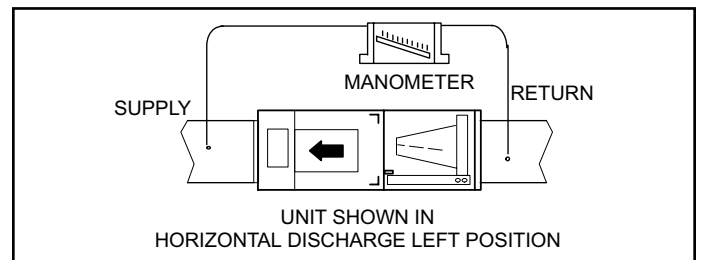

Figure 9. Static Pressure Test
1. Measure tap locations as shown in Figure 9.